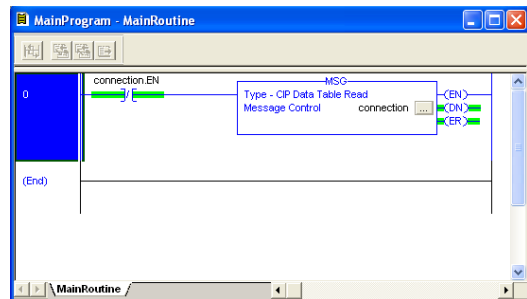

Figure 47: Complete Program
- 6) The program is now complete. Refer to Figure 47.